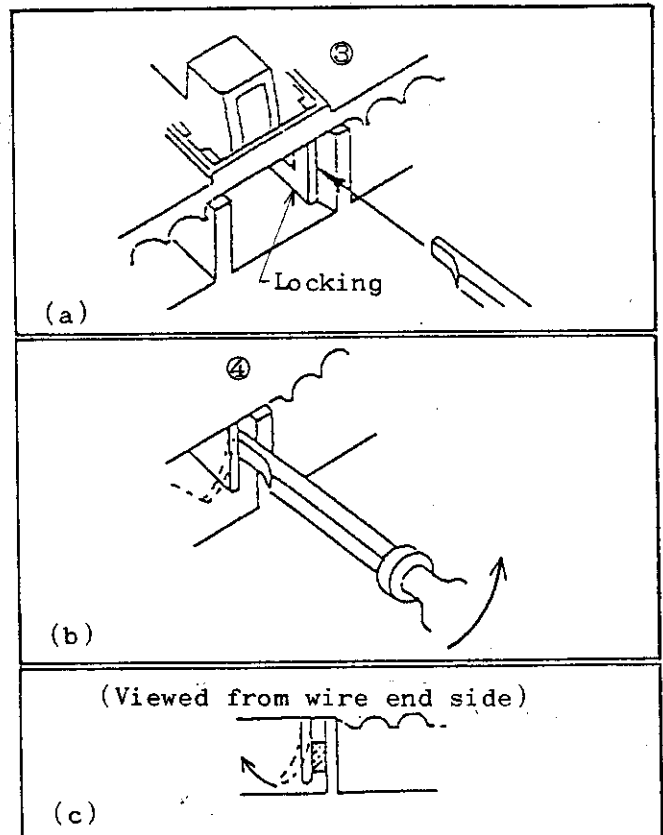

Fig. 4 (a), (b) and (c)
- ③ Insert tip end of the tool into the gap of locking device with its flat sides facing aside as shown in Fig. 4.
- ④ Tilt the tool in the arrowed direction to raise the hinge with the locking arm bending out.